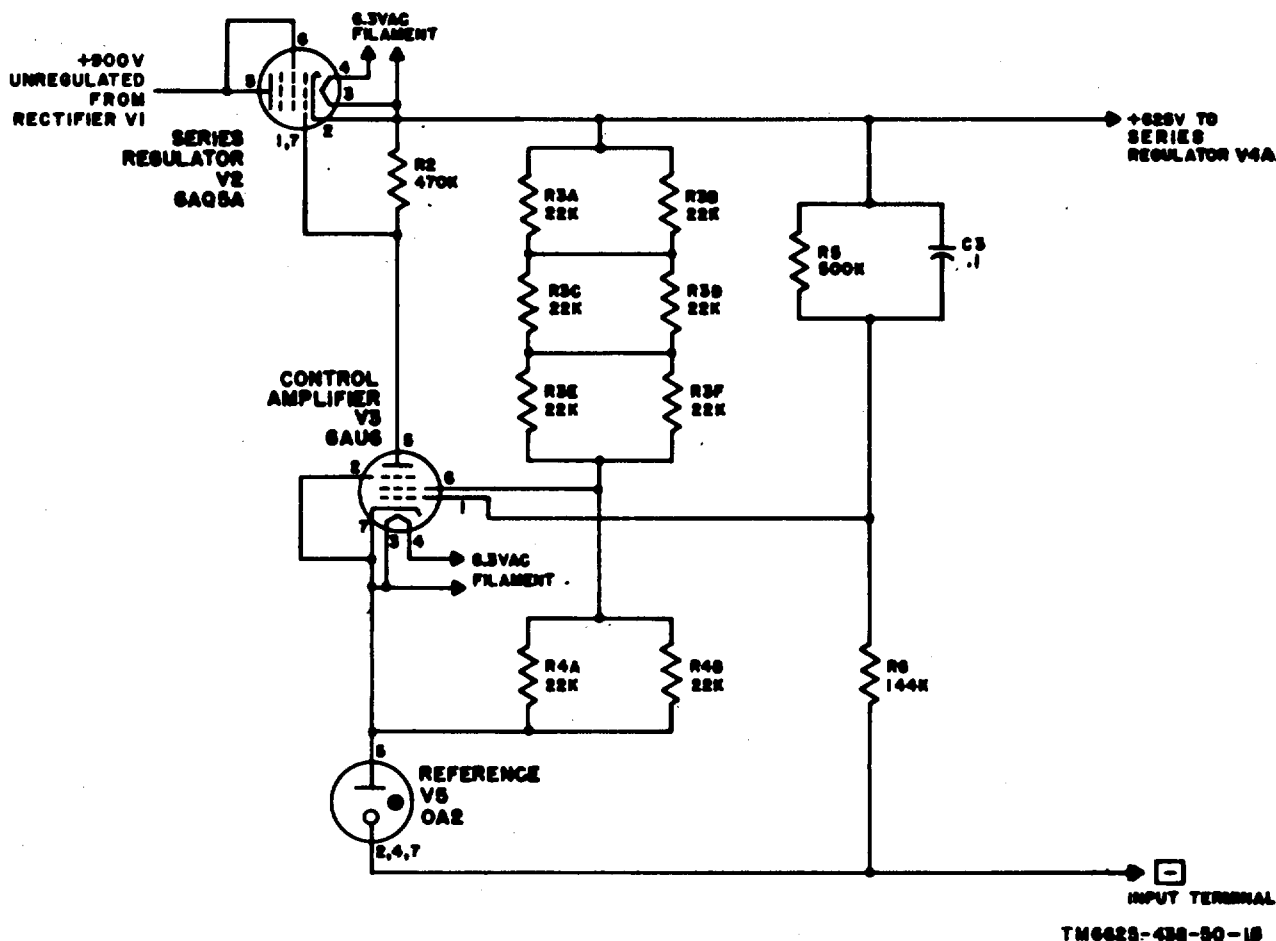

Figure 4-7. 0- to 500-volt reference power supply, first series regulator, schematic diagram.
4-4. Reference Power Supply 0- to 500-Volt (figs. 4-7, 4-8, and 9-5)
b. First Series Regulator (fig. 4-7). The first series regulator consists of series regulator tube V2, control amplifier tube V3, and reference tube V5. The plate voltage for tube V2